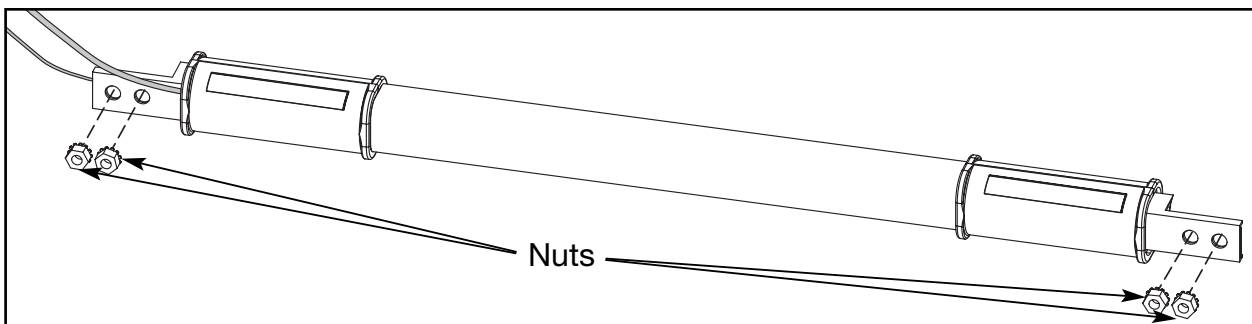

Figure 21
- B. Using an open end wrench remove the four nuts that hold the handrail assembly to the treadmill. See Figure 21.
- B.** Use an open end wrench to attach the four nuts that hold the handrail assembly to the treadmill. See Figure 21.